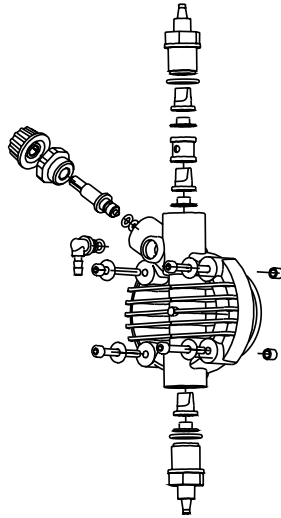

Fig. 11
- the additive concentration in the pipework; a reduction of this concentration could be caused by the wearing of the valves, in which case they need to be replaced (Fig. 11) or by the clogging of the filter which then has to be cleaned as in point 3 here below.
This operation can also be done with the pump disconnected from the plant by turning the pump upside-down for 15 to 30 seconds and without connecting the hose to the nipples; if impossible, dismount and remount the pump head (Fig. 11) using the four mounting screws.